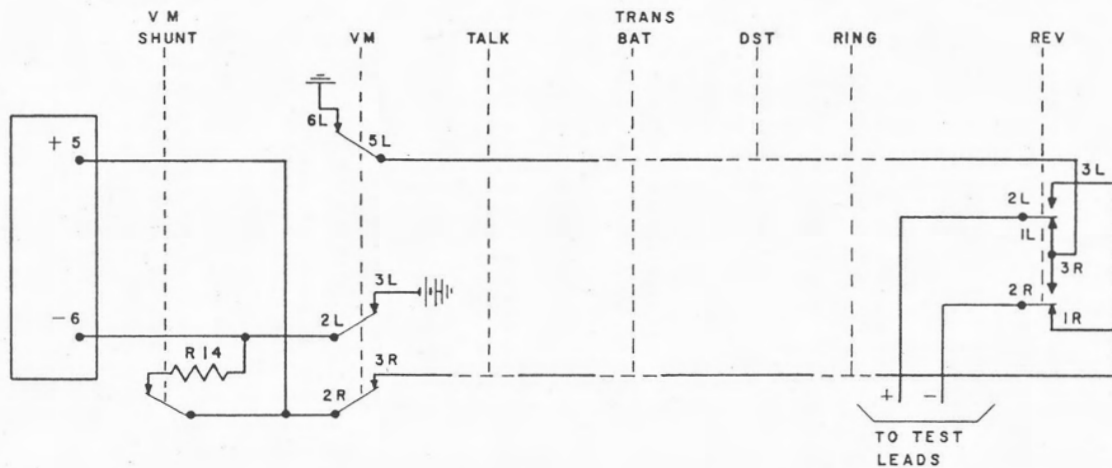

Figure 7. Test of loop resistance.
3.4.2 Checking loop resistance. Refer to figure 7. Operate the OUT key and the VM key. Note the voltage on the meter and find approximate resistance from table in rear. If less than 45,000, operate the VM SHUNT key and read the meter, noting the voltage. Find the resistance from TABLE II. If the battery voltage does not appear in the table, resistance may be calculated from the following formula:  $X = R (E - V) / V$ ; where X is the resistance of the loop, E equals the test battery voltage, R equals the internal resistance of the voltmeter (100,000Ω) and V is the voltmeter reading. With the VM SHUNT key operated, the value of R will be 1000Ω.